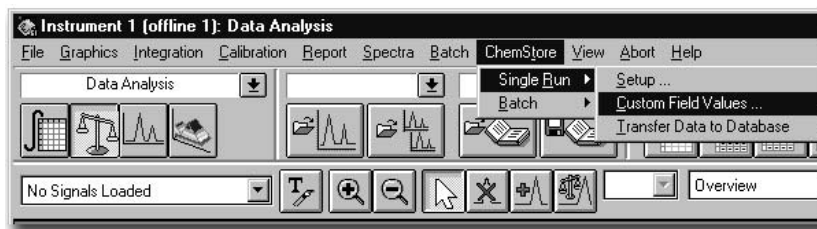

Figure 4
- Single sample/manual operation: Study and custom field values are entered by a "single run" Agilent ChemStation menu item (figure 4).